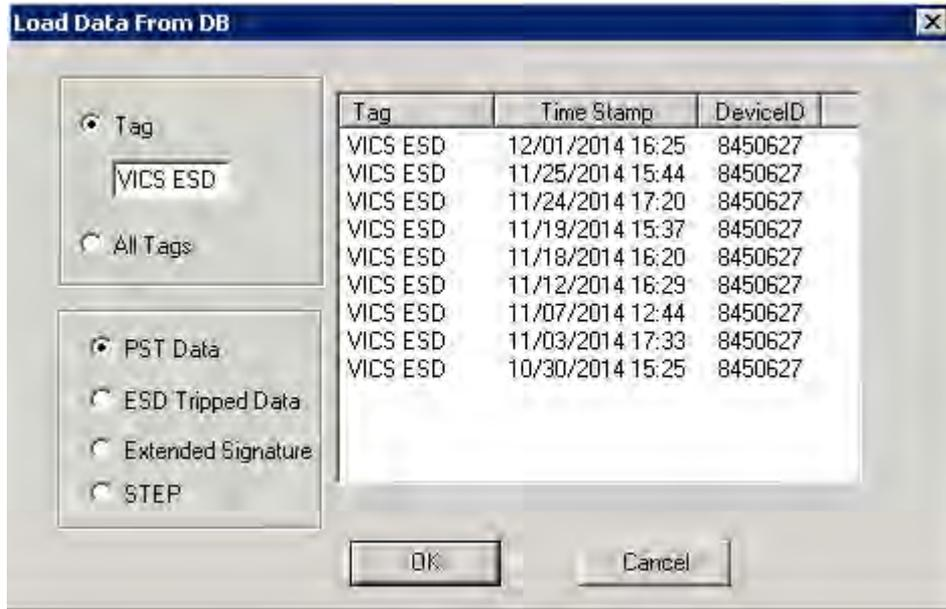

Figure 285 Device and Data Type Displayed
4. Select the data type you to load (Figure 285):